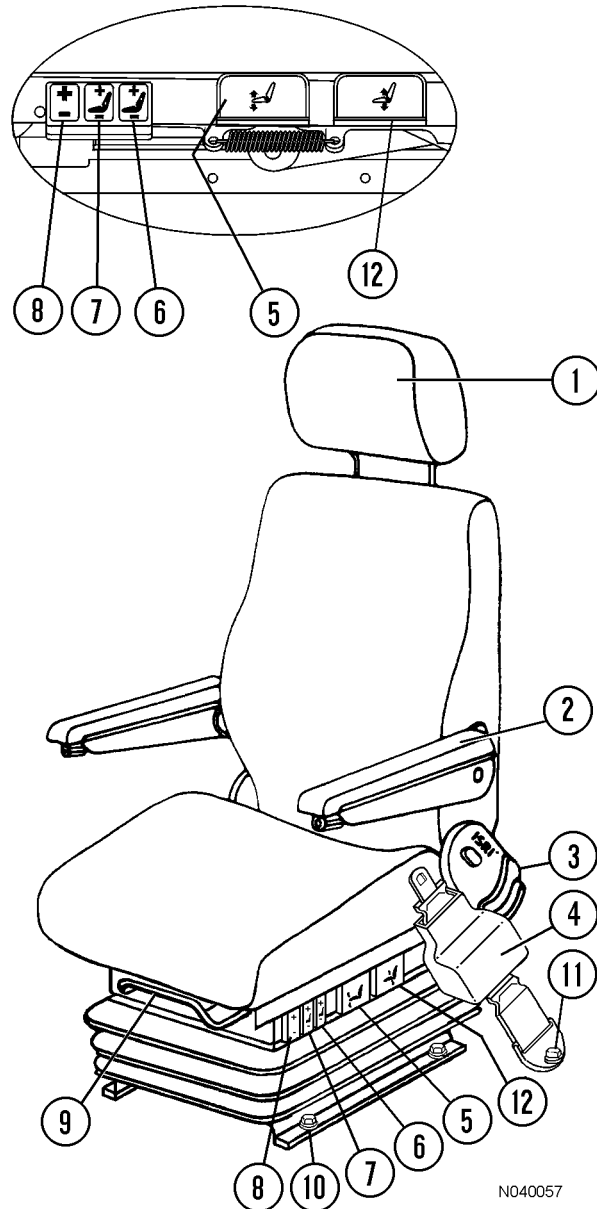

FIGURE 32-5. OPERATOR'S SEAT ADJUSTMENT CONTROLS
1. **Headrest:** (1, Figure 32-5) will move up, down, fore, or aft by moving headrest to desired position.
3. **Backrest:** Lift handle (3) to release and select backrest angle: release control handle to set.
4. **Seat Belt:** Operator should always have seat belt (4) buckled in place and properly adjusted whenever vehicle is in motion.
5. **Seat Slope:** Lift lever (5) and hold to adjust the slope of the seat. Release lever to lock adjustment.
6. & 7. **Air Lumbar Support:** Each rocker switch (6 or 7) controls an air pillow. Switch (7) controls the lower air pillow and switch (6) controls the upper air pillow. To inflate, press on top of rocker switch and hold for desired support, then release. To deflate, press on bottom of rocker switch and hold for desired support, then release. Adjust each pillow for desired support.
8. **Seat Suspension:** Press rocker switch (8) on top to increase ride firmness. Press on lower part of rocker switch to decrease ride firmness.
9. **Fore/Aft Location of Seat:** Lift lever (9) and hold. Bend knees to move seat to a comfortable position: release control lever to lock adjustment.
12. **Seat Height:** Lift lever (12) and hold to adjust the height of the seat. Release lever to lock adjustment.